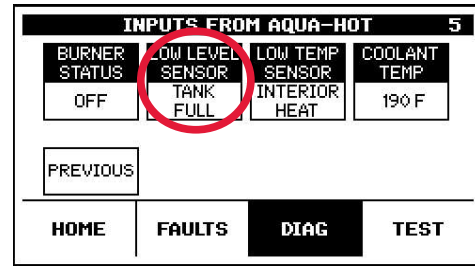

Figure 77
7. Pay attention to the “LOW LEVEL SENSOR” item on this page. See Figure 77.